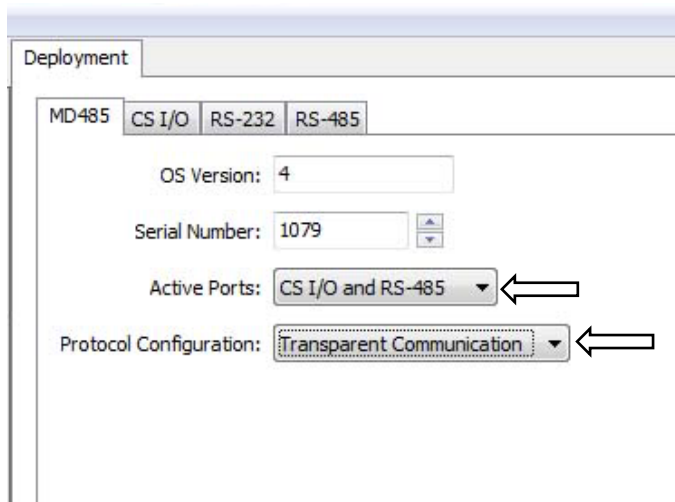

FIGURE 8-13. MD485 Deployment tab
4. Click the **MD485** tab. Select **CS I/O** and **RS-485** in the **Active Ports** box. Select **Transparent Communication** in the **Protocol** box (FIGURE 8-13).